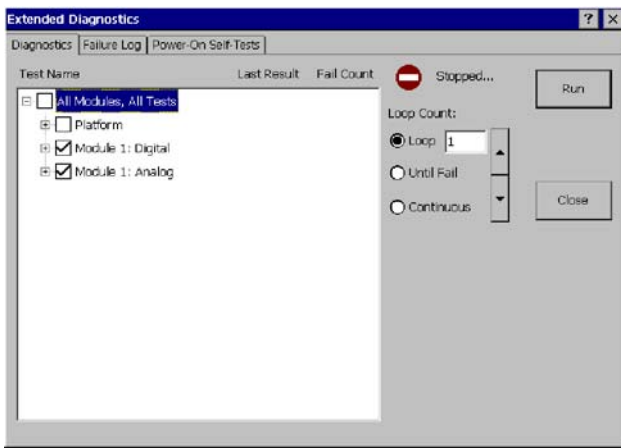

Figure E- 1: Settings to run diagnostics
6. Verify that **Module 1: Digital** and **Module 1: Analog** are selected. See Figure E-1.